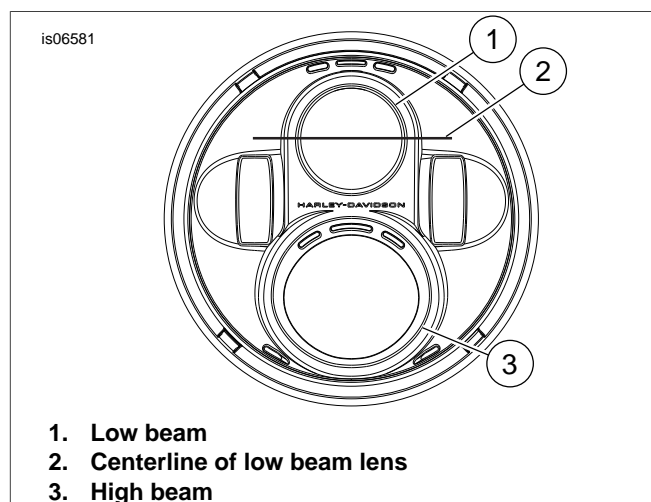

Figure 1. Headlamp Configuration
- See Figure 1. With vehicle laden and upright, point the front wheel straight forward at wall and measure the distance from the floor to the center of the **low beam** lens (2). Record this measurement.